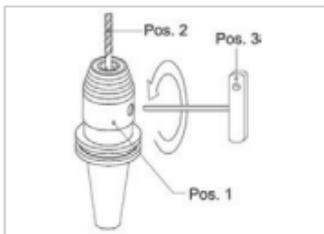

Figure 7: Loosening clamping jaws
1. Loosen the clamping jaws by turning the pinion with 3 to 7 turns counterclockwise using the appropriate hex-wrench (see "Figure 7: Loosening clamping jaws").